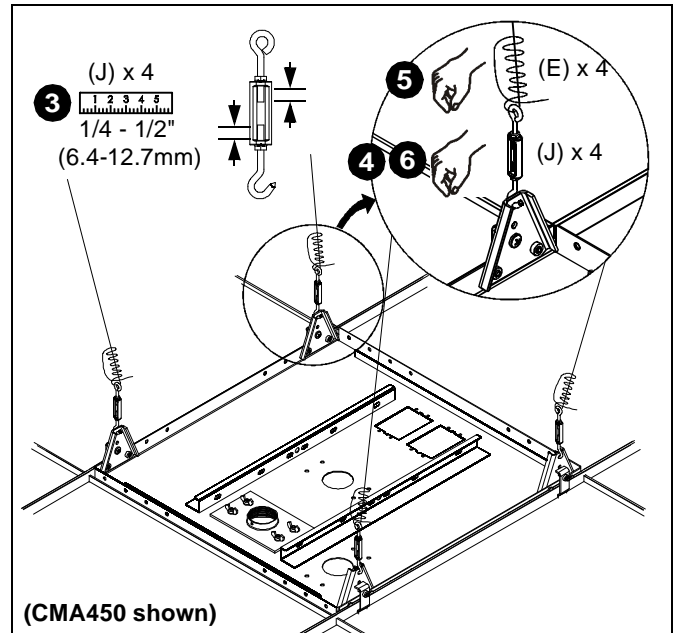

Figure 12
3. Adjust hooks and eyes on turnbuckles (J) so that approximately 1/4-1/2" (6.4-12.7mm) of threads show on inside of turnbuckles (See Figure 12).
4. Attach the hook end of each turnbuckle (J) to the corresponding hanger bracket (G) upper hole. (See Figure 12)
5. Insert corresponding hanging wire (E) through eye in turnbuckle (J). Pull wire tight and twist back around itself at least 4 complete turns, then thread loose end between eye and first turn. (See Figure 12) Repeat for 3 remaining turnbuckles (J).
6. Adjust turnbuckles (J) until tray (A) is supported *entirely* and *evenly* by all four support wires (E), but not so tight as to distort suspended ceiling framework (See Figure 12).